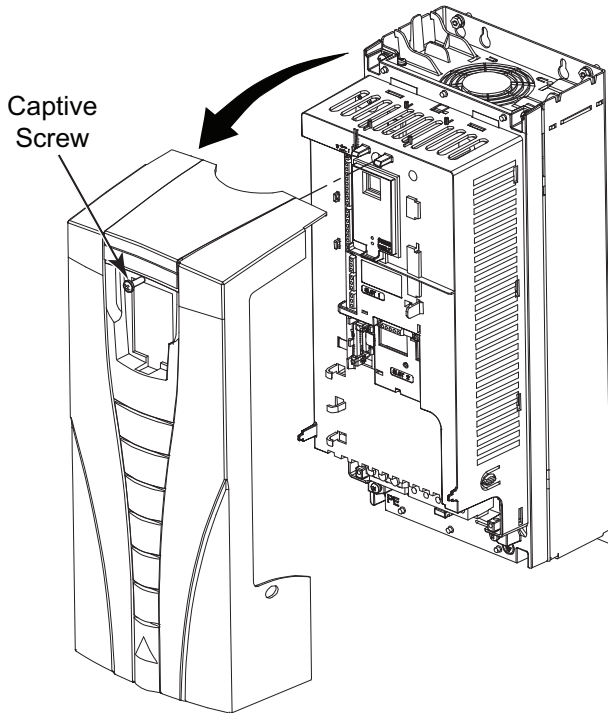

Fig. 42 — Remove ACH550 VFD Front Cover
2. Remove the drive cover (see Fig. 42).
2. Remove drive cover (see Fig. 42 on page 32).